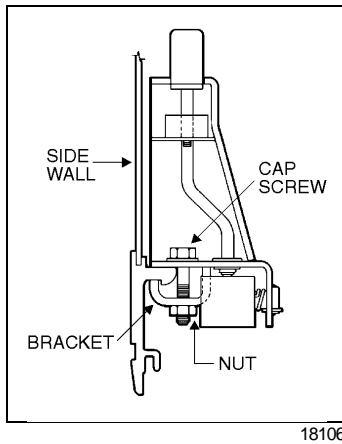

FIGURE 63: PASSENGER SEAT FRAME HOLDING
4. Remove 2 cap screws, nuts, and washers holding seat frame to side wall and retain the 2 holding brackets. See figure 63.